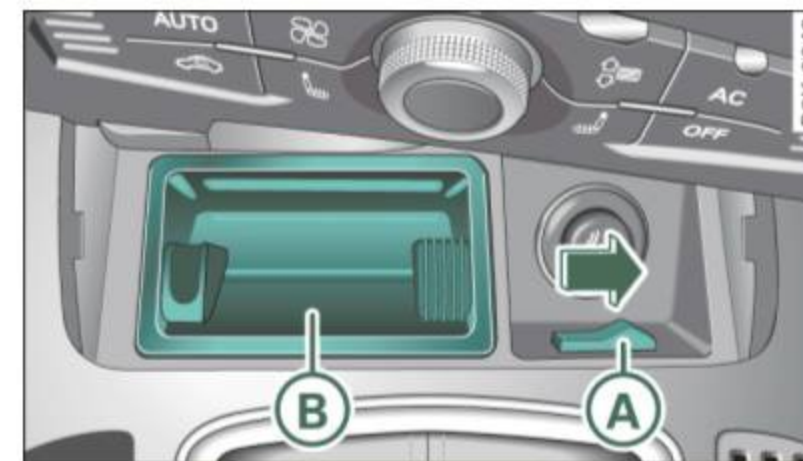

Fig. 99 Center console: front ashtray
- Release the ashtray insert by sliding the switch **(A)** ⇒ *page 89, fig. 99* to the right.
- Remove the ashtray insert **(B)** ⇒ *page 89, fig. 99*.